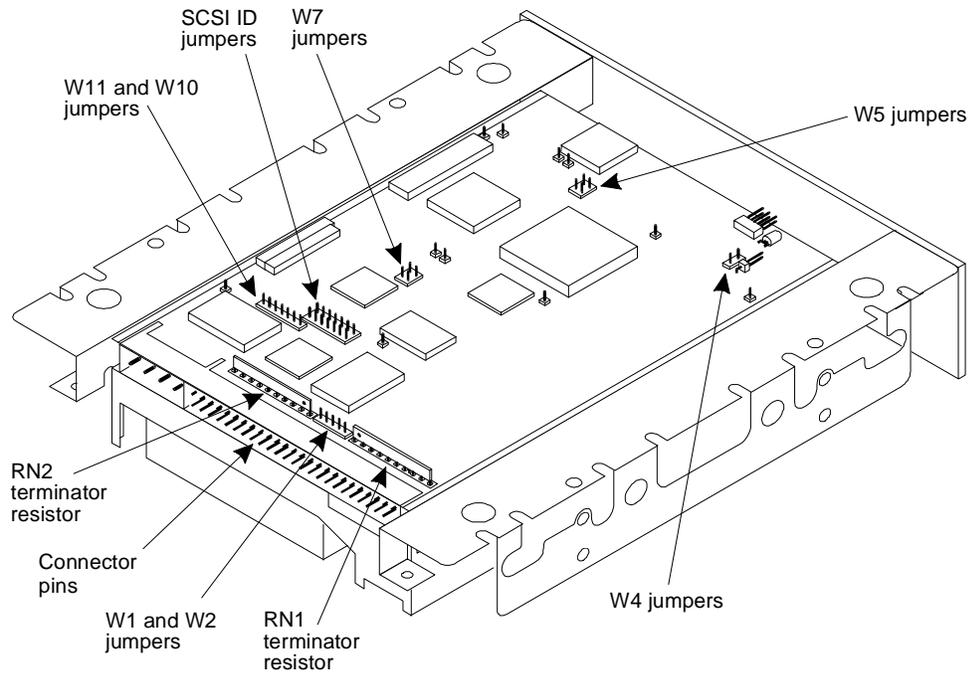
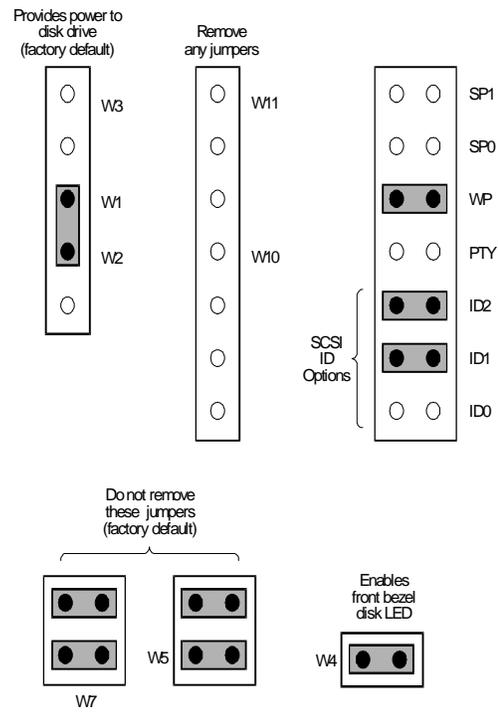

Figure 10-5. 1.7-Gbyte SCSI Hard Disk Drive
Figure 10-7. Jumper Settings for the Second Disk Installed, Bay 3
- If you are installing a 1.7-Gbyte SCSI disk drive, refer to Figure 10-5 through Figure 10-7 for the jumper settings.